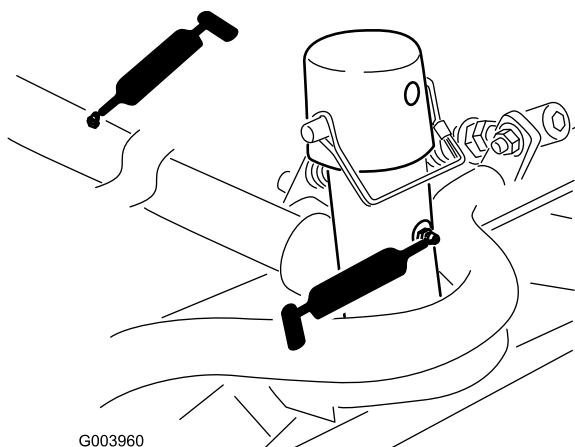

Figure 48
- Cutting-unit carrier-frame and pivot (2 each) (Figure 48)